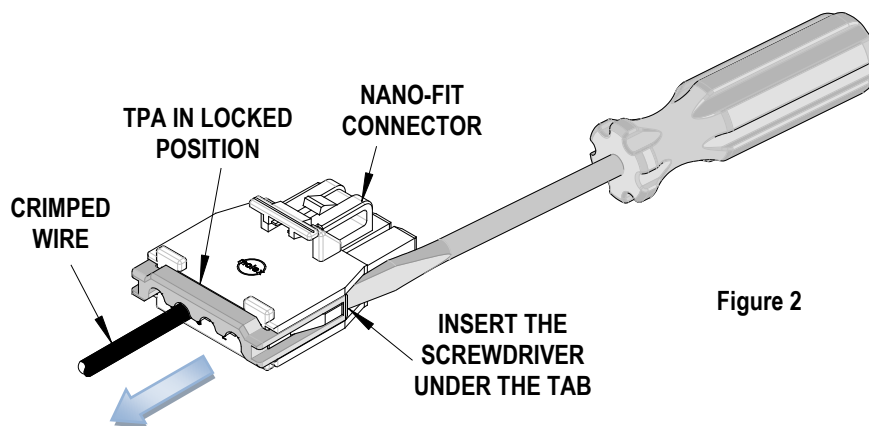

Figure 2
- Using a small screwdriver insert the flat edge under the tab of the TPA lock. See Figure 2.